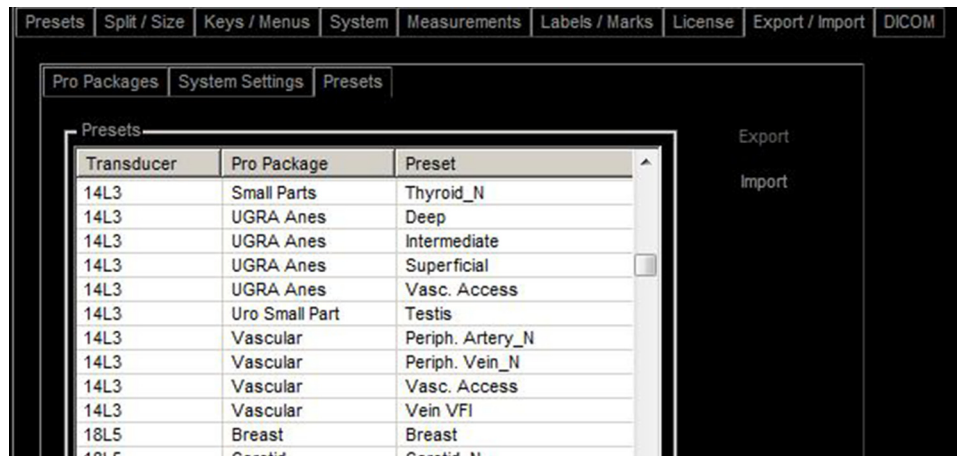

Figure C-28. The Preset Export/Import window.
- 1 In the **Preset Export/Import** window (Fig C-28), click **Import**.